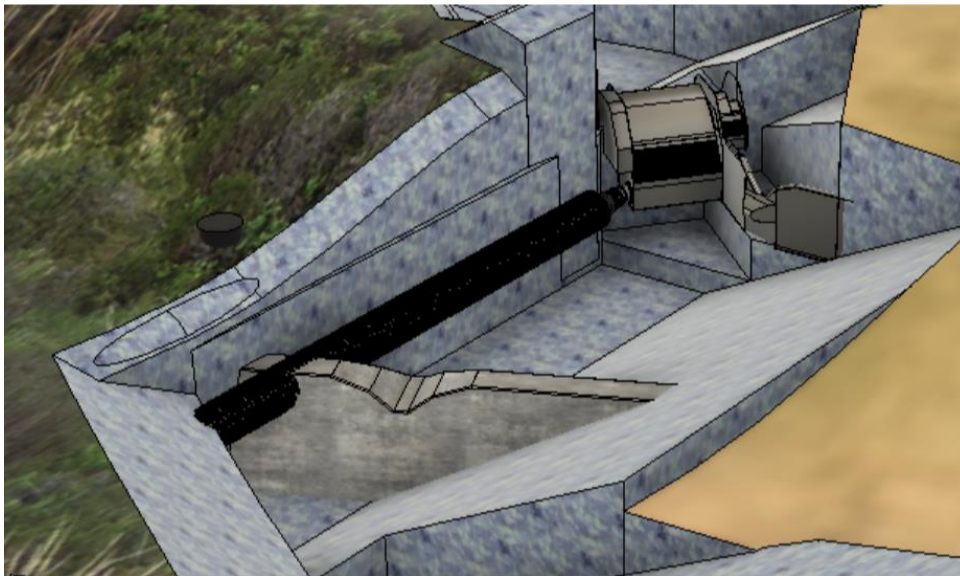

Figure 7. Downstream weir with flow-metering notch.
- Cast weir using concrete and plywood forms, temporarily bolted down to rock (Figure 7).